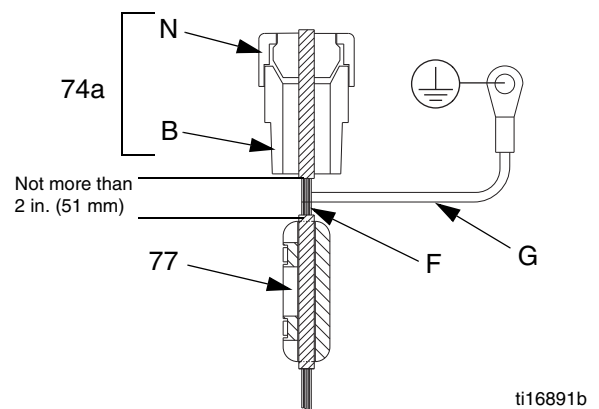

FIG. 11. IS Circuit Field Wire
19. Thread the IS field wire and shield through the conductive strain relief (74a) and connect it to J2 and J3. See FIG. 11 and the **Electrical Diagrams**, page 10.
20. See FIG. 11. Tighten the nut (N) on the conductive strain relief (74a) securely. Install the ferrite (77) on the field wire (F), not more than 2 in. (51 mm) from the bottom of the conductive strain relief (74a). Install ground wire to grounding screw in junction box.
21. Install the new gasket (33), the cover (34), and six screws (12).
22. Remove the old label (L) from the circuit board cover (34). Attach the new label (L) to the cover.
23. Calibrate the transducer, entering the calibration information found on the new label (L):
24. Reinstall the cover (32) with two screws (12).